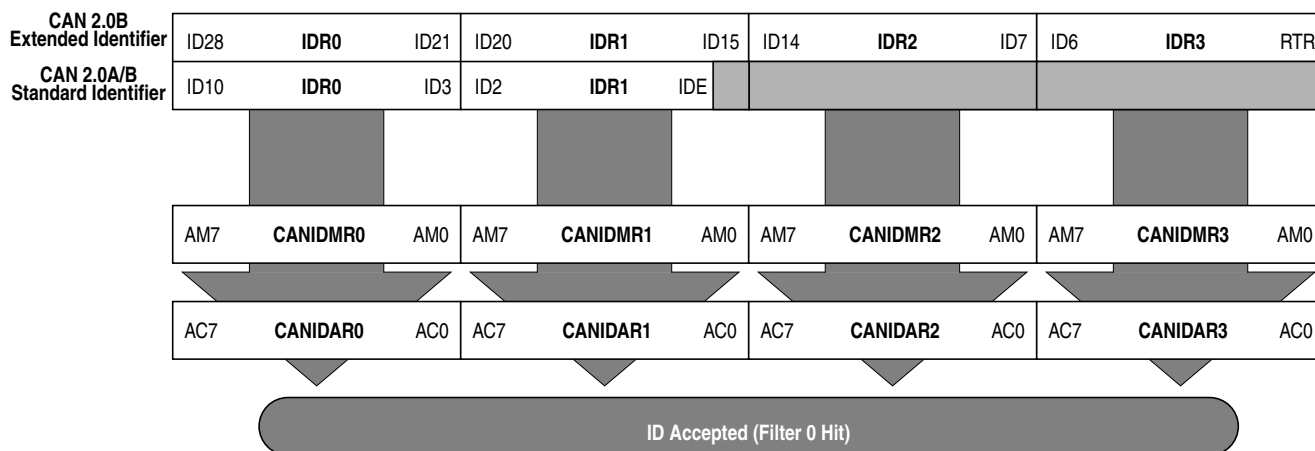

Figure 9-37. 32-bit Maskable Identifier Acceptance Filter
- The 11 bits of the standard identifier plus the RTR and IDE bits of the CAN 2.0A/B messages¹. This mode implements two filters for a full length CAN 2.0B compliant extended identifier. Figure 9-37 shows how the first 32-bit filter bank (CANIDAR0–CANIDAR3, CANIDMR0–CANIDMR3) produces a filter 0 hit. Similarly, the second filter bank (CANIDAR4–CANIDAR7, CANIDMR4–CANIDMR7) produces a filter 1 hit.